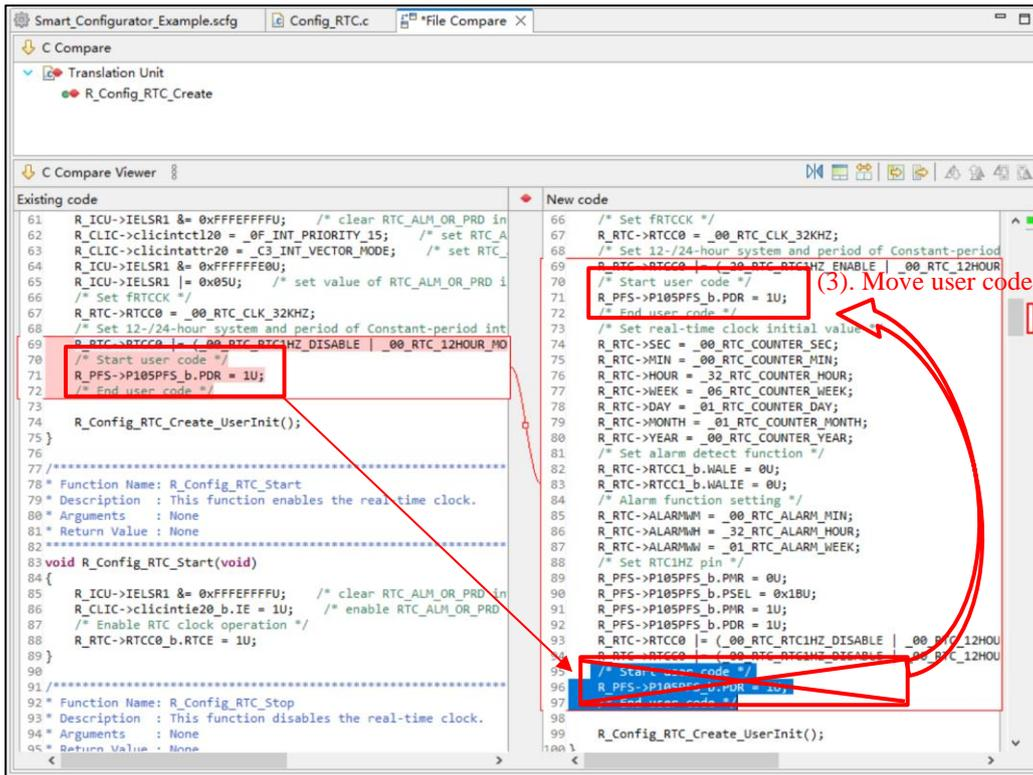

Figure 12-5 Code after Applying “Copy Current Change from Left to Right”
- (3) Move user codes to the place you want to use (Figure 12-5 Code after Applying “Copy Current Change from Left to Right”).